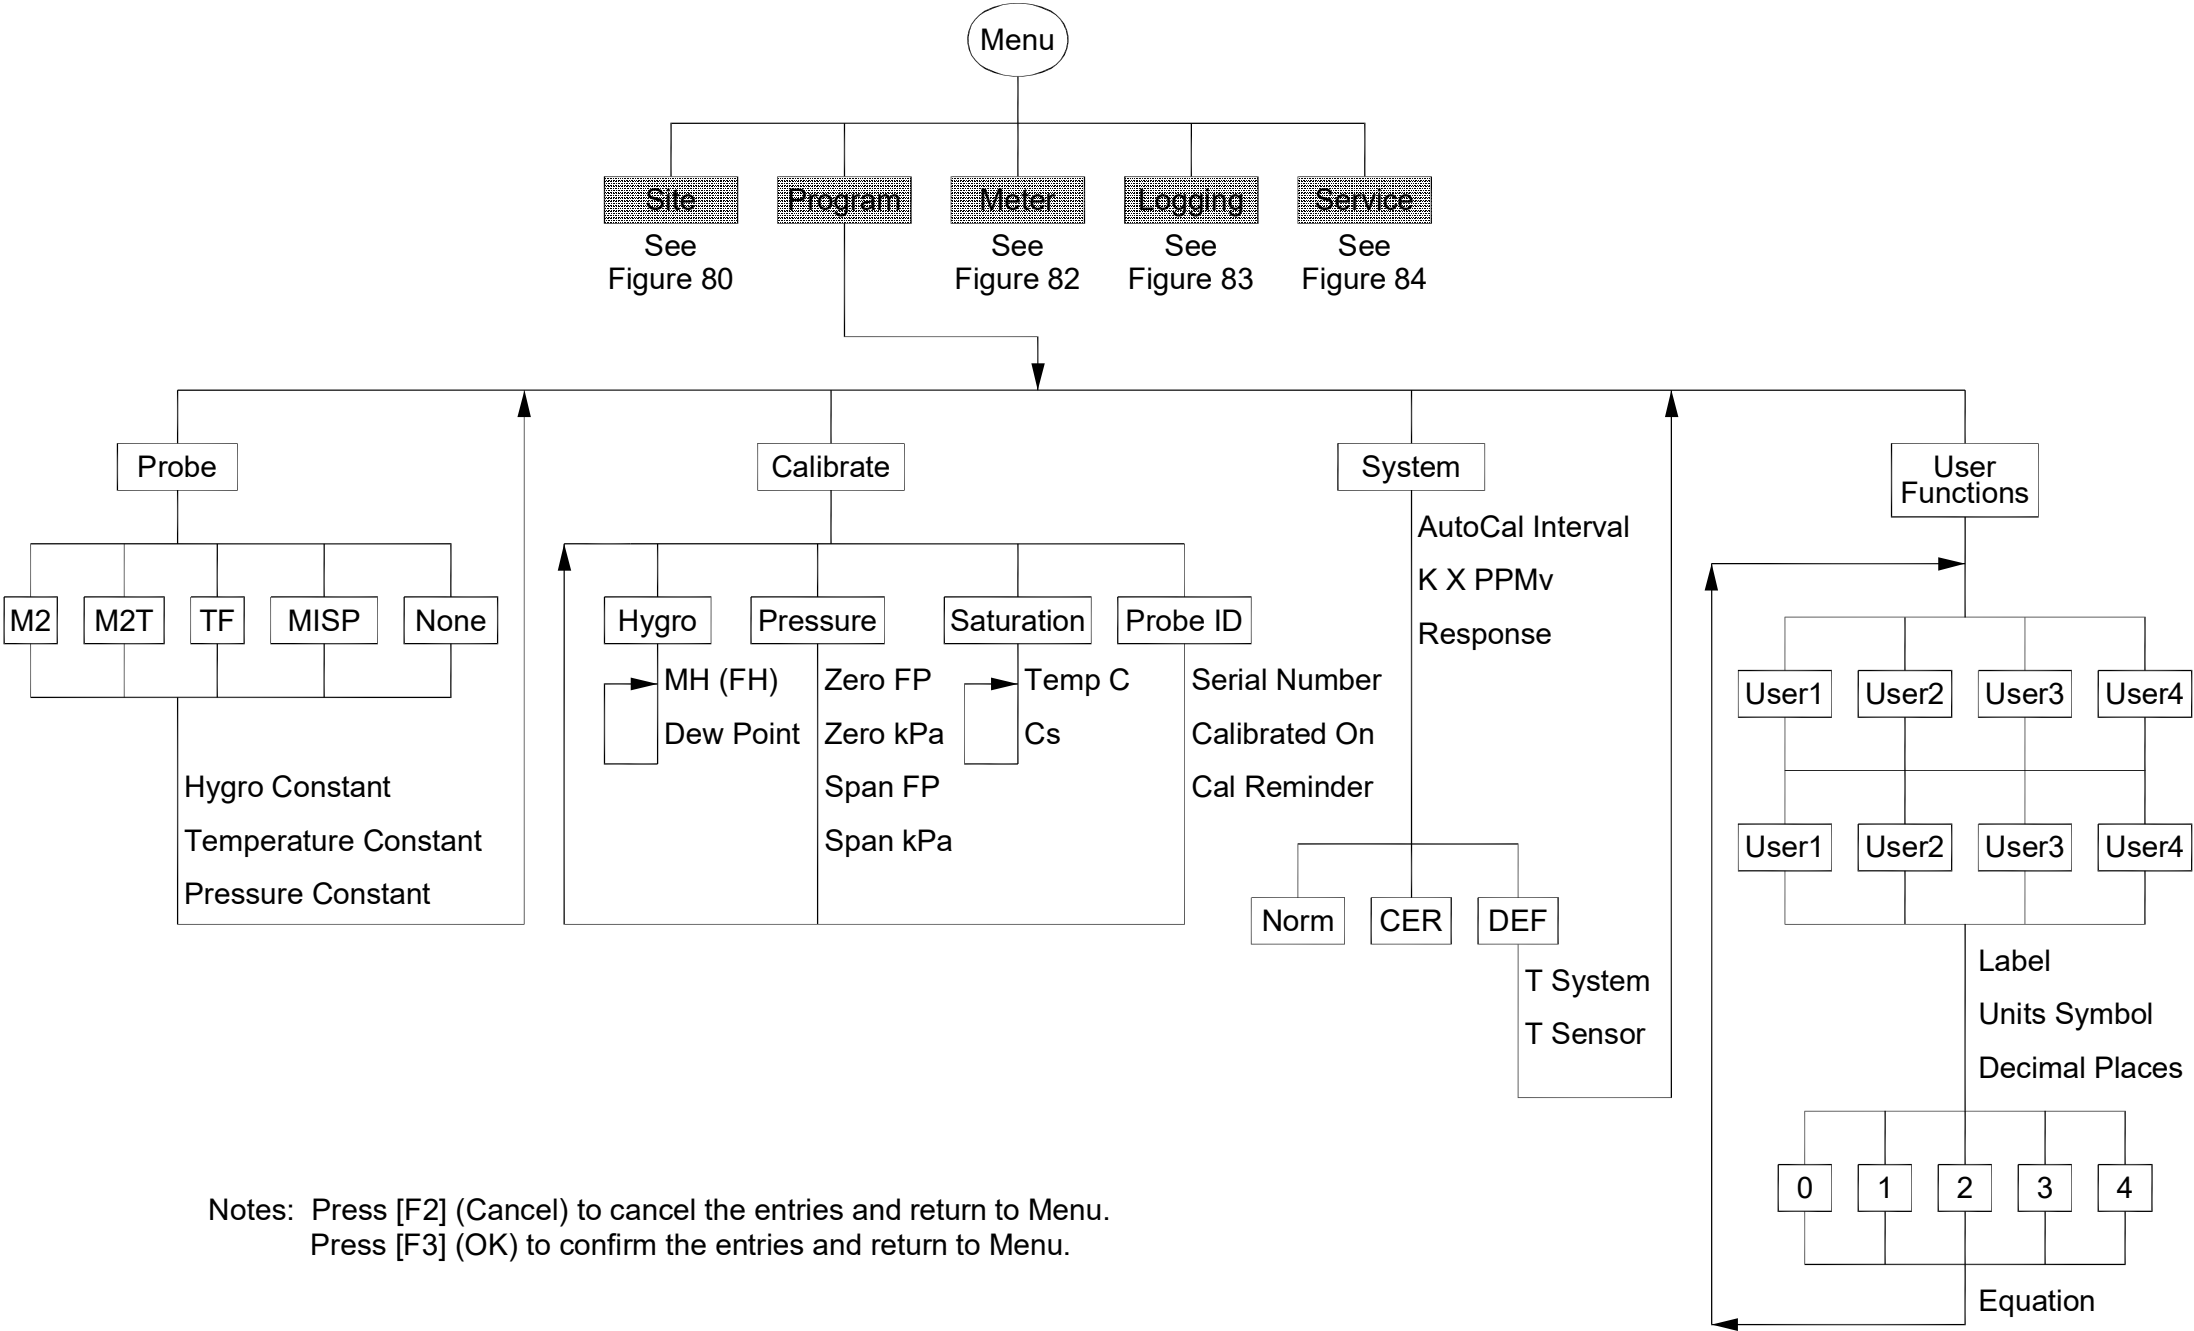

Figure 81: Program Menu
- The Program Menu - *Figure 81*